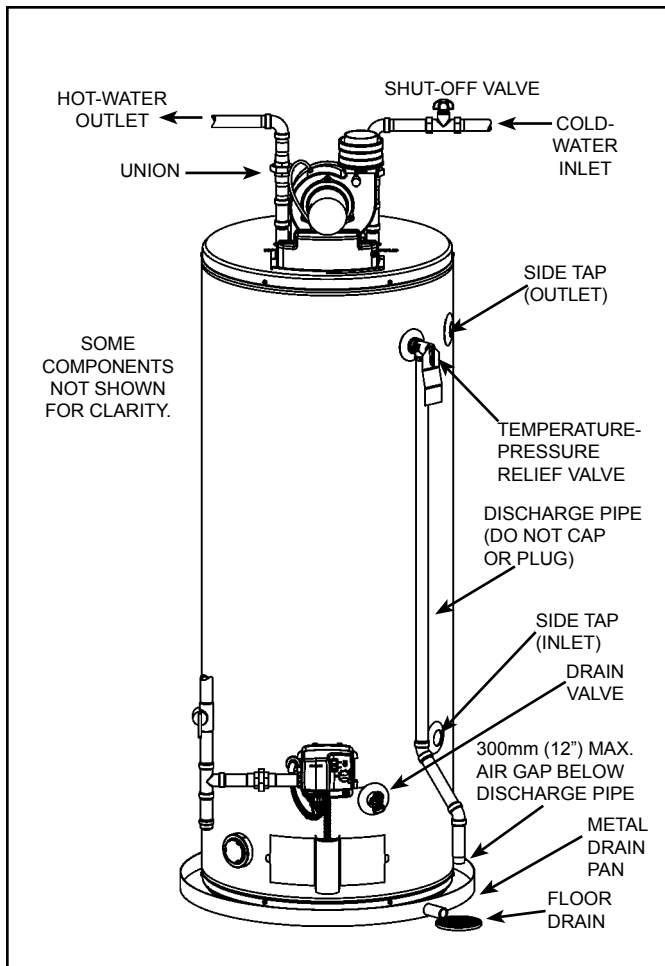

Figure 22.
1. Close the water heater drain valve by turning handle to the right (clockwise). The drain valve is on the lower front of water heater (see Figure 22).